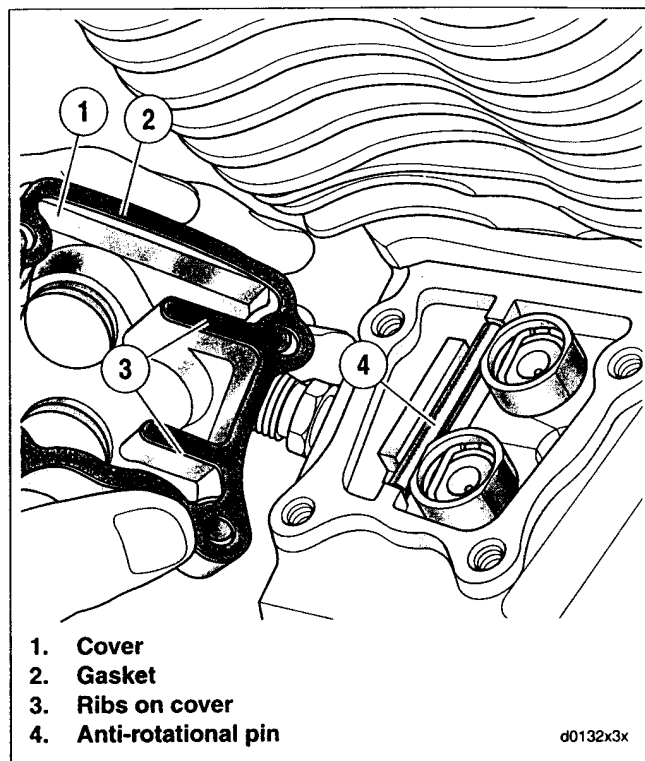

Figure 3-44. Installing Lifters
2. See Figure 3-44. Place the anti-rotational pin (4) on the machined flat between the blocks cast into the crankcase.
3. Install a **new** lifter cover gasket (2) aligning the holes in the gasket with those in the cover (1).